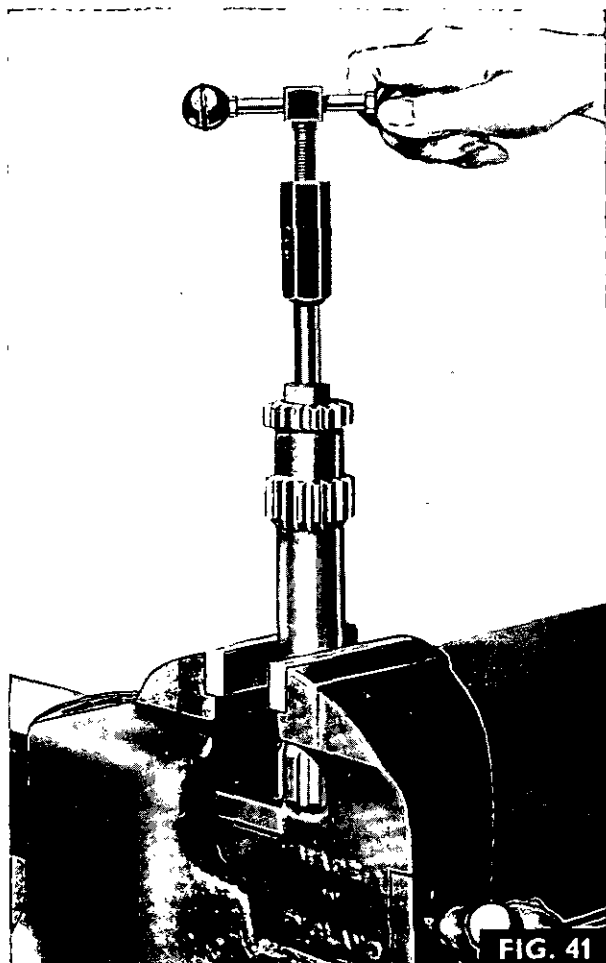

FIG. 41
4. Fig. 41. Locate the end of the bearing remover tool MF 202A underneath the bearing cage, inside the bore of the rear drive shaft.